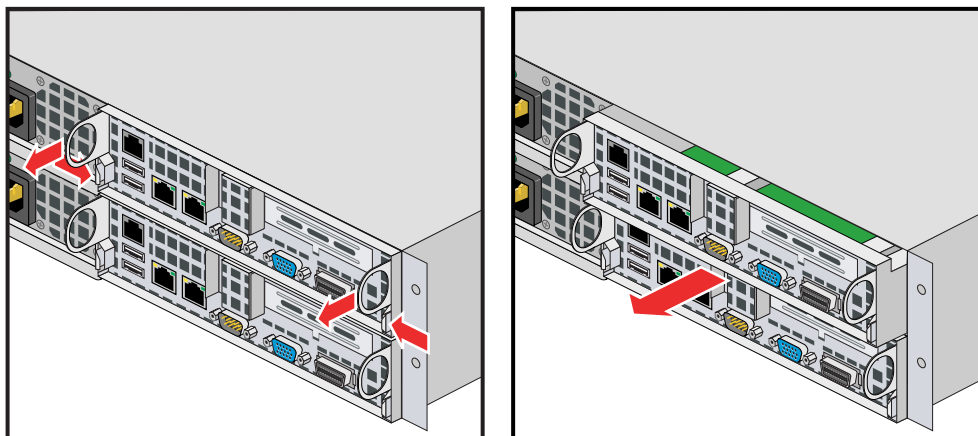

Figure 6-7 Extracting a Serverboard
4. Grasp the serverboard's circular handles at either end and simultaneously push inward on the tab beneath each handle, see Figure 6-7 on page 56 for an example.